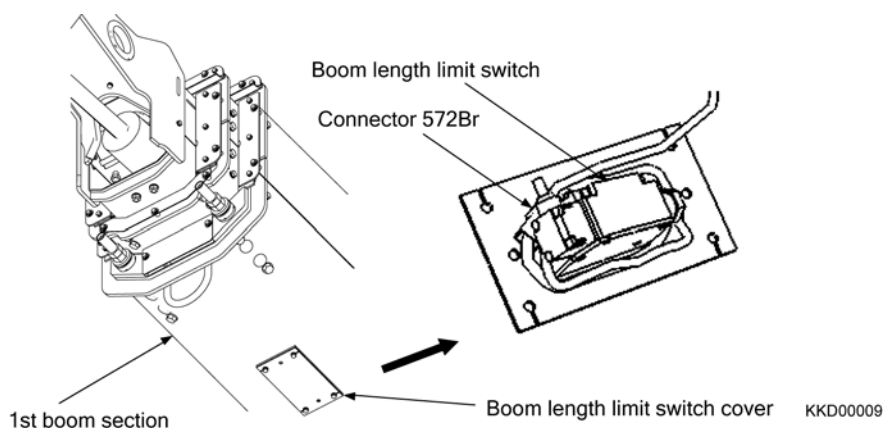

Fig. 2-38
- 13) Open the boom length limit switch cover located under the 1st boom section, and then disconnect the cable for the boom length limit switch (Connector 572Br) (Fig. 2-38).